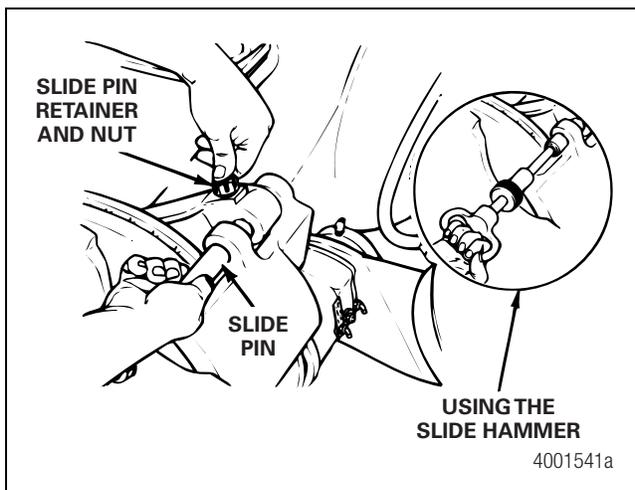

Figure 3.6
- Push down the retainer and push in the slide pin. Figure 3.6. The retainer will snap out when the notches engage.